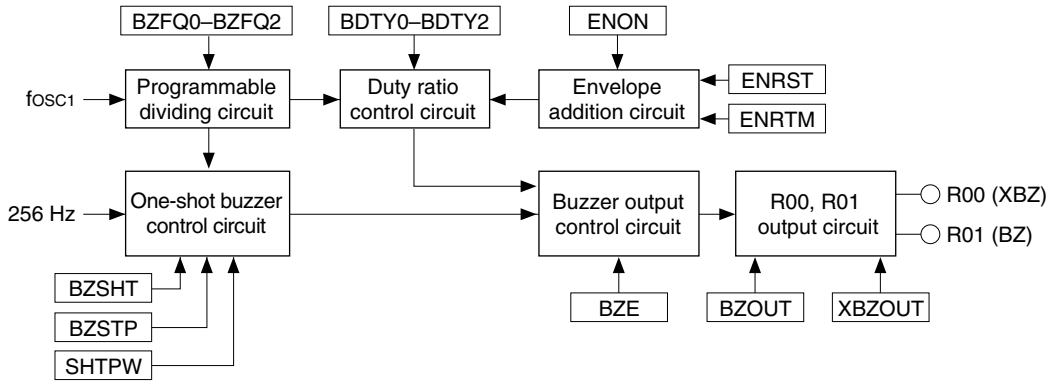

Fig. 4.12.1.1 Configuration of sound generator
The S1C63567 has a built-in sound generator for generating buzzer signals. Hence, generated buzzer signals can be output from the R00 (XBZ) and R01 (BZ) terminals. Aside permitting the respective setting of the buzzer signal frequency and sound level to 8 stages, it permits the adding of a digital envelope by means of duty ratio control. It also has a one-shot output function for outputting key operated sounds. Figure 4.12.1.1 shows the configuration of the sound generator.